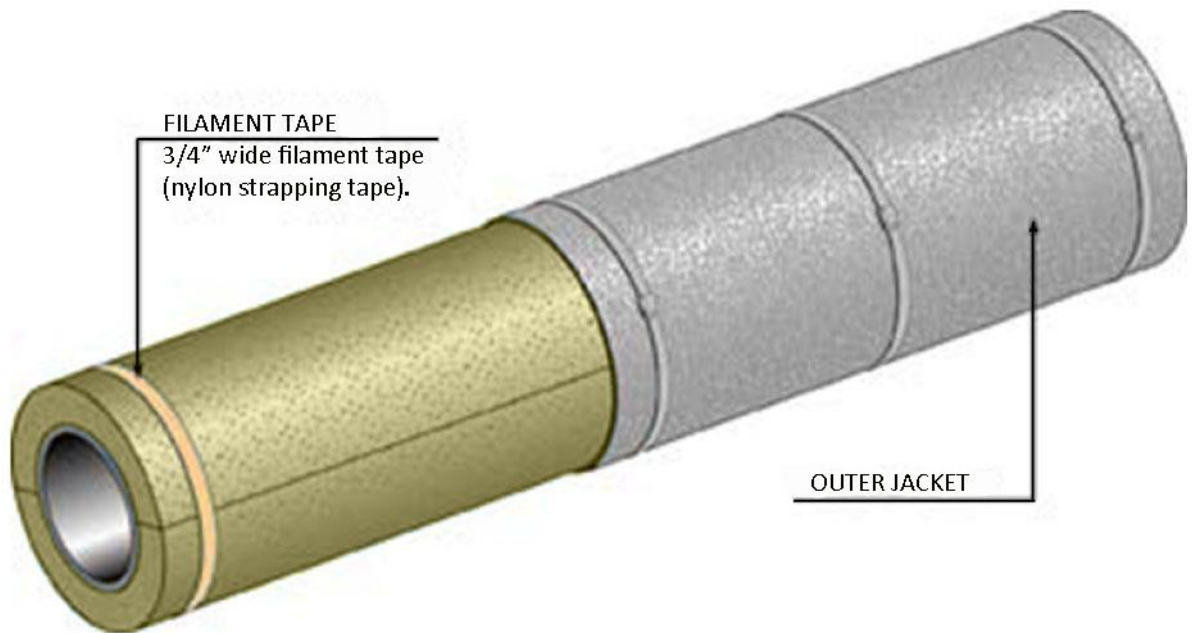

Figure 1
- 4.1.3 Orient longitudinal joints between half sections of the outer insulation layer in the 3 and 9 o'clock position on the pipe. Refer to Figure 1 in Appendix B. Staggered joints are not required in this service.